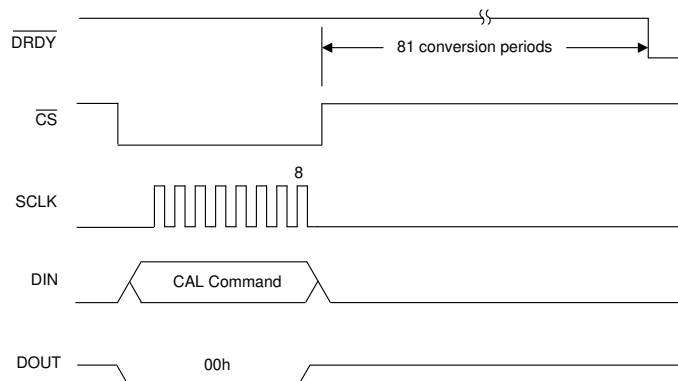

图 8-21. Calibration Command
- OFSCAL command. After the command is sent, $\overline{\text{DRDY}}$ is driven low 81 conversion periods later to indicate calibration is complete. The OFFSET register is updated with the new calibration value. As shown in 图 8-21, the first data output uses the new OFFSET value.
- GANCAL command. Apply a positive dc full-scale calibration voltage. After the command is sent, $\overline{\text{DRDY}}$ is driven low 81 conversion periods later to indicate calibration is complete. The ADC calculates GAIN such that the full-scale code is equal to the applied calibration signal. As shown in 图 8-21, the first data output uses the new GAIN value.